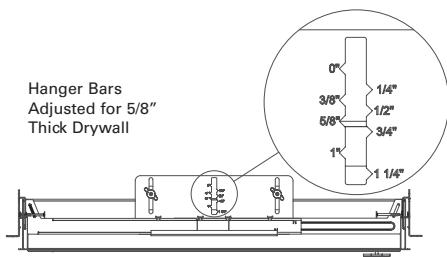

Figure 4
6. Adjust the fixture to accommodate the thickness of drywall, plaster, or ceiling tile to be used. The notches and markings on the hanger bar holders correspond to the material thickness (See Figure 4).